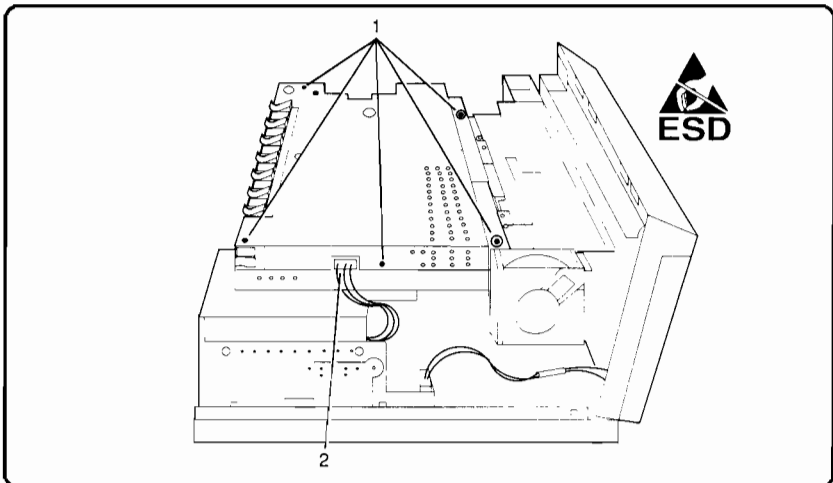

Figure 6-24. Upper PCA Shield Removal
4. Remove the screws (5) securing the Upper PCA Shield and remove the shield (Figure 6-24, callout 1).
5. Disconnect the Power Cable from the Formatter PCA (see Figure 6-24, callout 2).